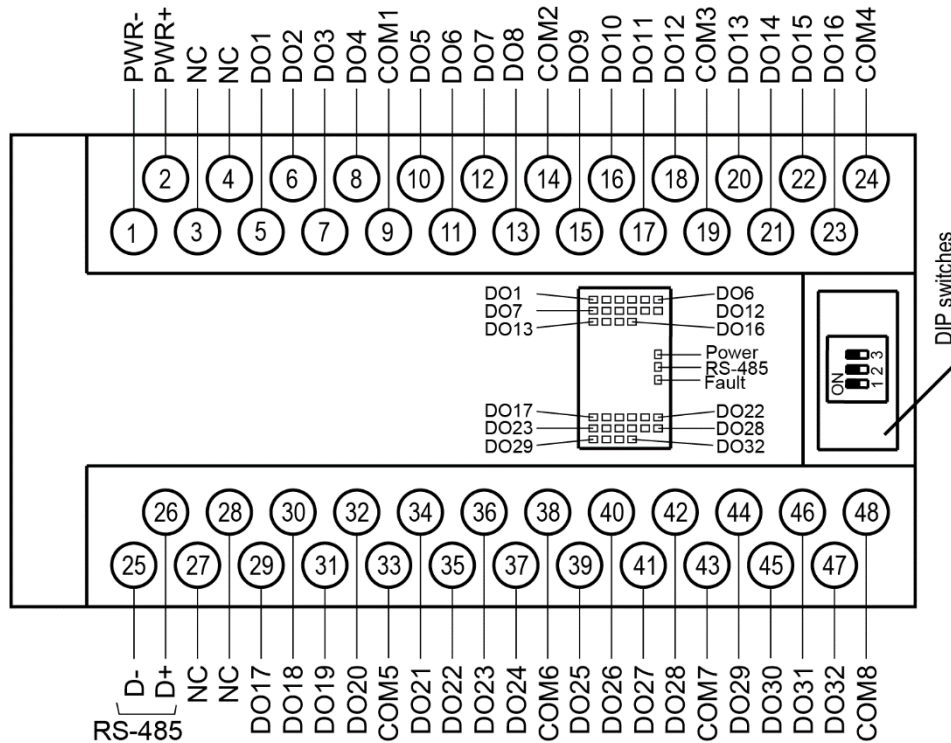

Fig. 4.1 Electrical connections MU110-32R
- The electrical connections are shown in Fig. 4.1 and the terminal assignments in Table 4.1.
- Open the front cover of the module (see Fig. 4.1)